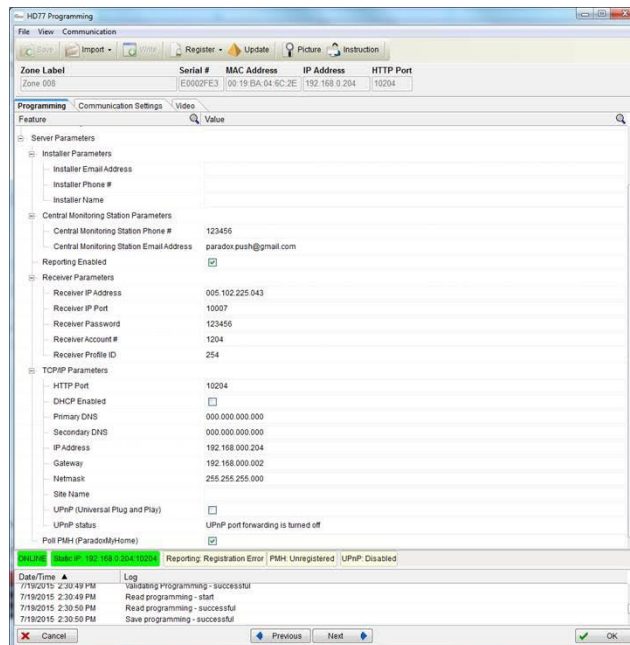

Figure 3.12 – Programming Window
5. Configure HD77 static IP parameters: Enter HD77 Programming window (see Figure 3.12 on page 26) and enter the required settings in the provided fields: